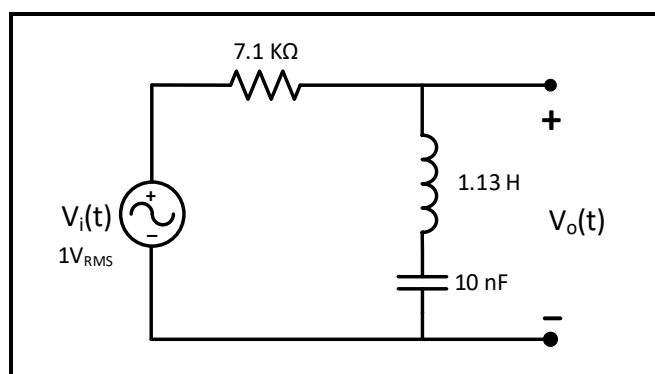

Figure 11.6
1. Calculate the center frequency (f_0), two cut-off frequencies (f_{C1} and f_{C2}), and bandwidth (β) **in Hertz**, for the circuit in Figure 11.6.
2. Simulate the circuit of figure 11.6 using ac sweep with a Vac source at 1 V amplitude; plot the magnitude of the output voltage (V_o)
3. Repeat Step 2 for the circuit in Figure 11.6, using $R = 3.5 \text{ k}\Omega$.
1. Connect the circuit of Figure 11.6, with a sinusoidal input voltage at 1 V_{RMS} , use decade box for R.
- Repeat steps (3-5) for the circuit of figure 11.6 using $R = 3.5 \text{ k}\Omega$, record results in Table 11.3.